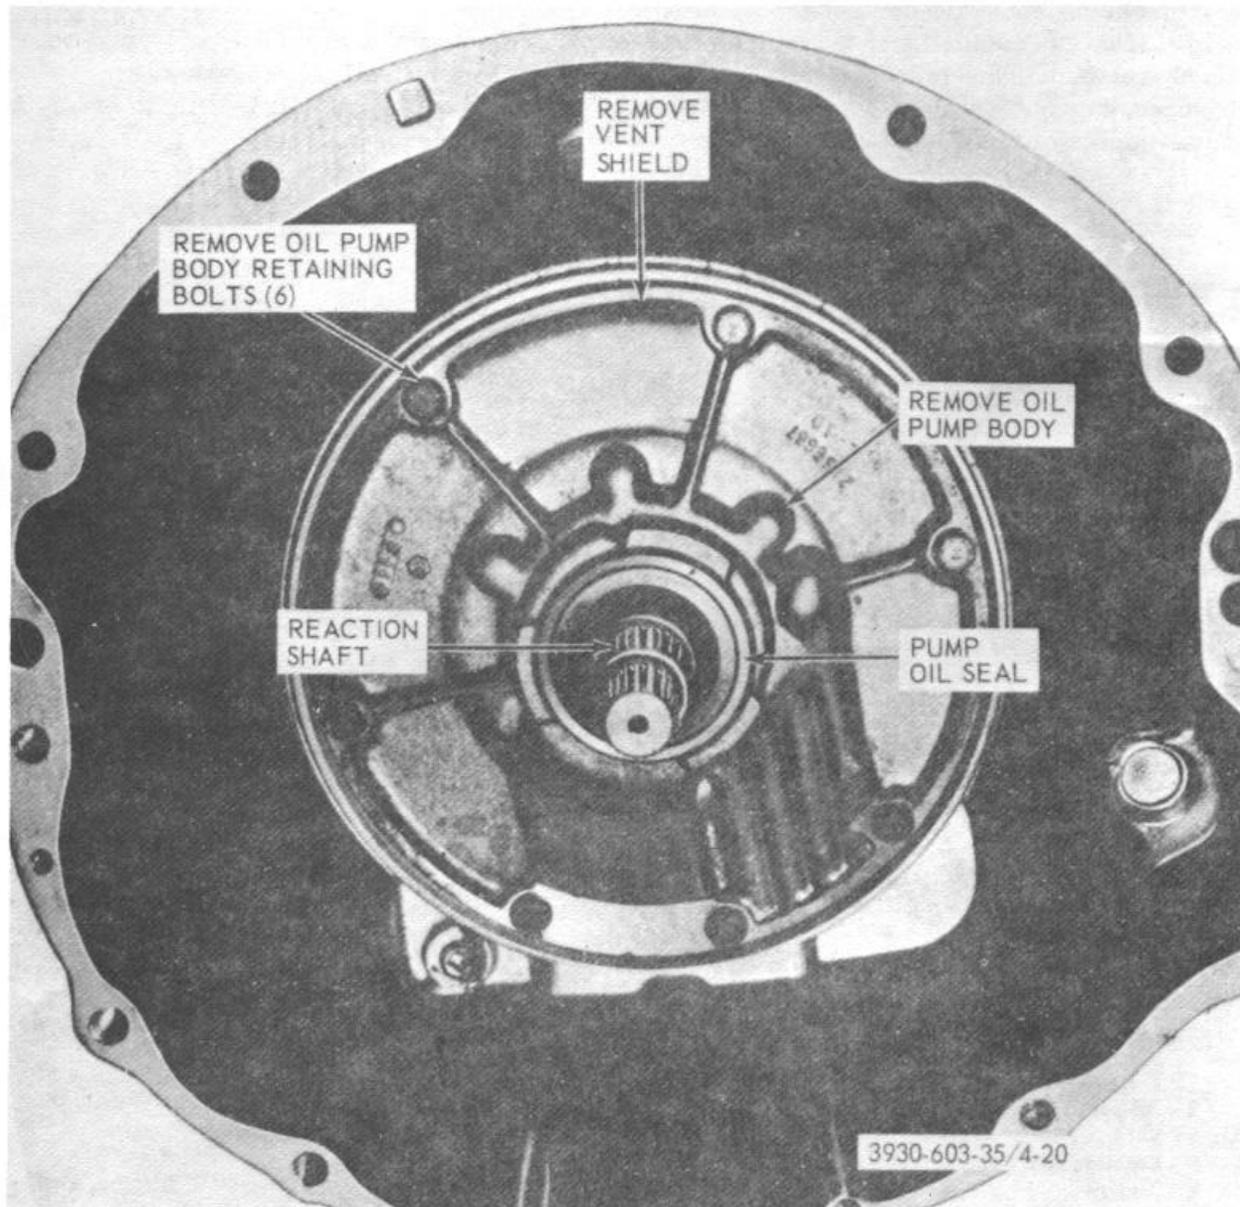

Figure 4-20. Oil pump housing and reaction shaft support removal.
a. The pump oil seal (fig. 4-20) can be replaced without removing pump and reaction shaft support assembly from transmission case.
- d. Remove six oil pump body bolts (fig. 4-20).